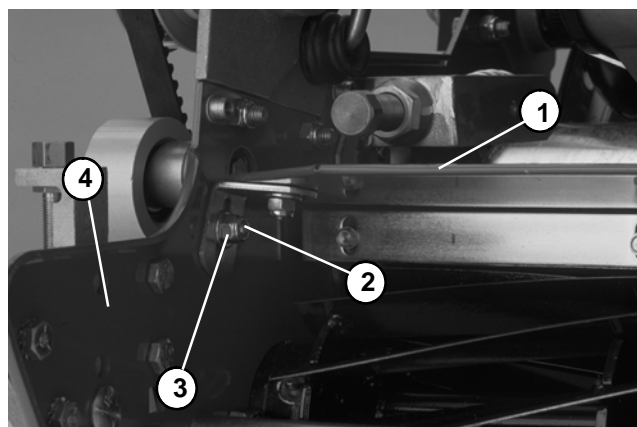

Figure 19
4. Loosen capscrews and nuts securing each end of the shield to the side plates. Adjust shield to the correct height and tighten fasteners (Fig. 19).